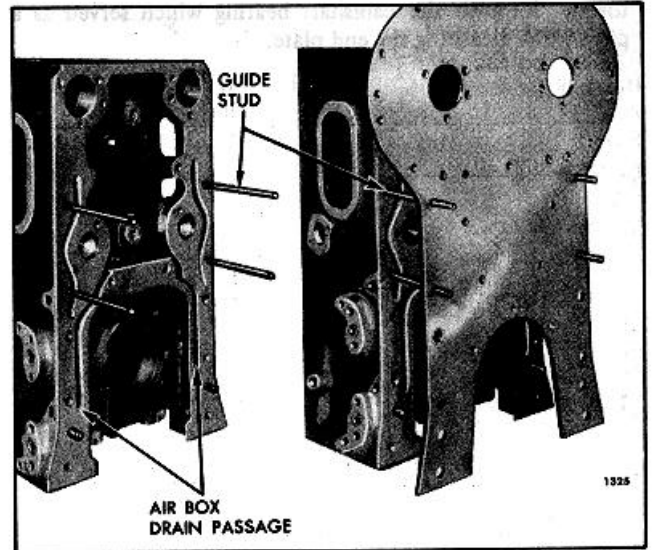

Fig. 2. Installing Front End Plate
2. Use guide studs J 1927-01 as shown in Fig. 2 to set the front end plate next to the cylinder block and install the bolts and lock washers. Do not tighten the bolts at this time. Wipe the excess gasket cement from the bores in the end plate and the cylinder block.